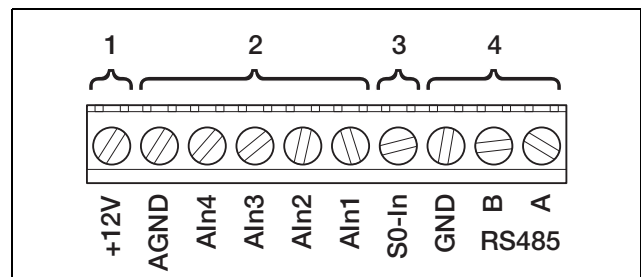

Fig. 39: Cable terminal
- Connect the lines to the terminal according to the terminal assignment (figure 39 and table 7).
Connections for the serial **RS485 interface** are found on the terminal for analogue interfaces (figure 39). Using RS485, up to 200 inverters - depending on the inverters used - can be connected.